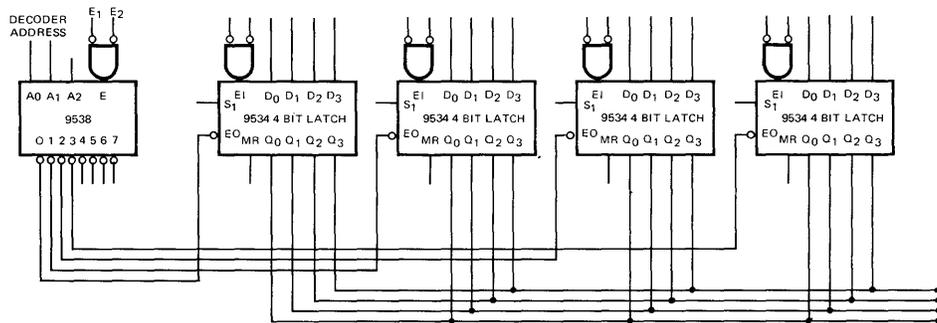

Fig. 13
An output enable (EO) is provided in addition to the input enables (EI). This permits both multiplexing of outputs (Figure 13) and demultiplexing of inputs (Figure 14). The Multiport Register in Figure 15 makes use of these features.